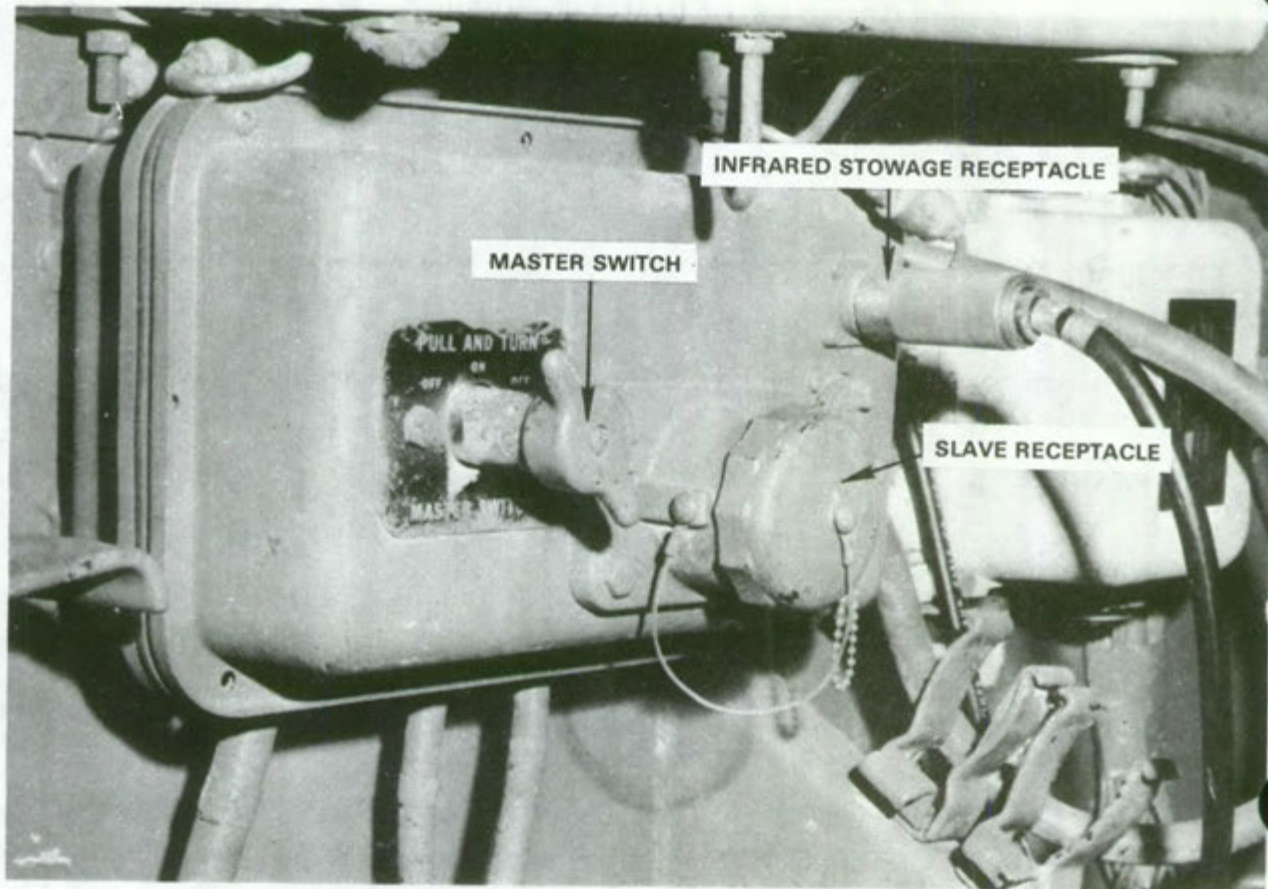

Figure 1.
a. Turn master switch OFF before connecting auxiliary power cable (figure 1).